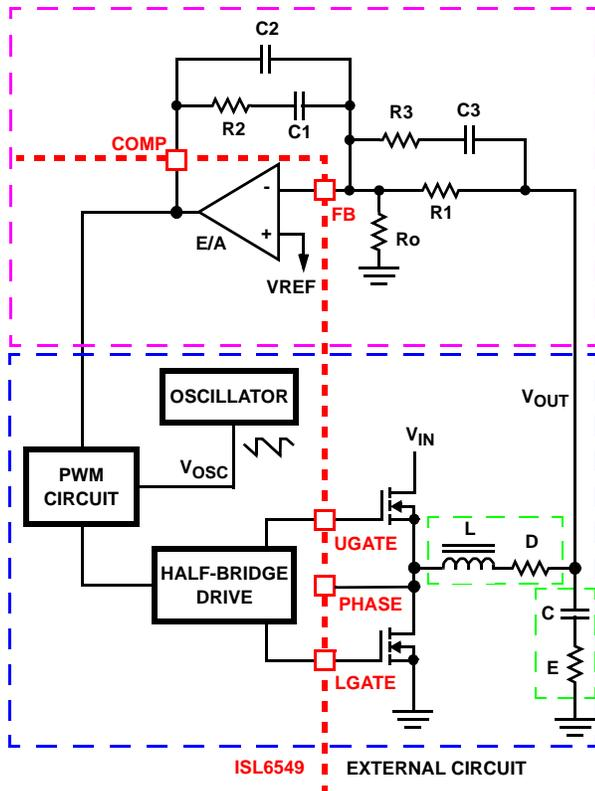

FIGURE 10. VOLTAGE-MODE BUCK CONVERTER COMPENSATION DESIGN
Figure 10 highlights the voltage-mode control loop for a synchronous-rectified buck converter, applicable to the ISL6549 circuit. The output voltage (VOUT) is regulated to the reference voltage, VREF. The error amplifier output (COMP pin voltage) is compared with the oscillator (OSC) modified saw-tooth wave to provide a pulse-width modulated wave with an amplitude of VIN at the PHASE node. The PWM wave is smoothed by the output filter (L and C). The output filter capacitor bank’s equivalent series resistance is represented by the series resistor E.
The compensation network consists of the error amplifier (internal to the ISL6549) and the external R1-R3, C1-C3 components. The goal of the compensation network is to provide a closed loop transfer function with high 0dB crossing frequency (F0; typically 0.1 to 0.3 of FSW) and adequate phase margin (better than 45 degrees). Phase margin is the difference between the closed loop phase at F0dB and 180°. The equations that follow relate the compensation network’s poles, zeros and gain to the components (R1, R2, R3, C1, C2, and C3) in Figure 10.
1. Select a value for R1 (1kΩ to 5kΩ, typically). Calculate value for R2 for desired converter bandwidth (F_0). If setting the output voltage via an offset resistor connected to the FB pin, R_o in Figure 10, the design procedure can be followed as presented.